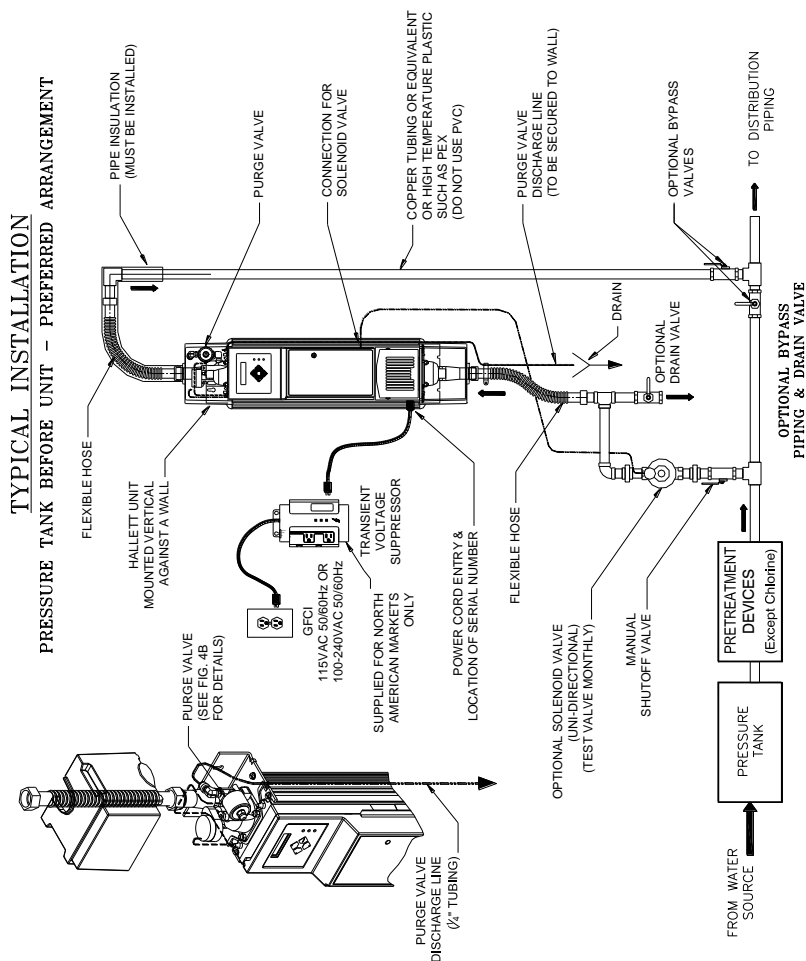

Figure 1B
There are two standard operating voltages for the Hallett 15xs unit. The unit may be 115Vac or 100-240 Vac and draws 175W. Please refer to the power input label located near the power cord entry of the unit. See Figure 1B. Record the operating voltage and serial on the front cover of the manual.
The Hallett requires four #12 to 1/4" diameter fasteners (not provided) to mount to a wall. It also requires male NPT fittings for the hose connections and also for the optional solenoid valve (1"). The Hallett unit requires a drain for purge valve discharge line. These fittings, pipe insulation, and any piping compatible with the plumbing should be on hand before you begin installation. See Figure 1B and make a list of all necessary components including solder, paste and thread sealant. Bypass piping and valves that isolate the unit are optional, (but recommended) as is a drain valve for draining the unit.
Step 2: If you have decided to install an optional bypass line and drain, you may begin to install these fittings at this point. See Figure 1B or 1C for more information on how to connect optional bypass piping and drain.
Step 2: Plug the female end of the power cord into the power entry module located on the left side of the front panel. The power cord must be removed before front panel can be opened. See Figure 1B or 1C. Plug the male end of the power cord into the Transient Voltage Surge Suppressor. Plug the Transient Voltage Surge Suppressor into a GFCI. Flip the switch on the Transient Voltage Surge